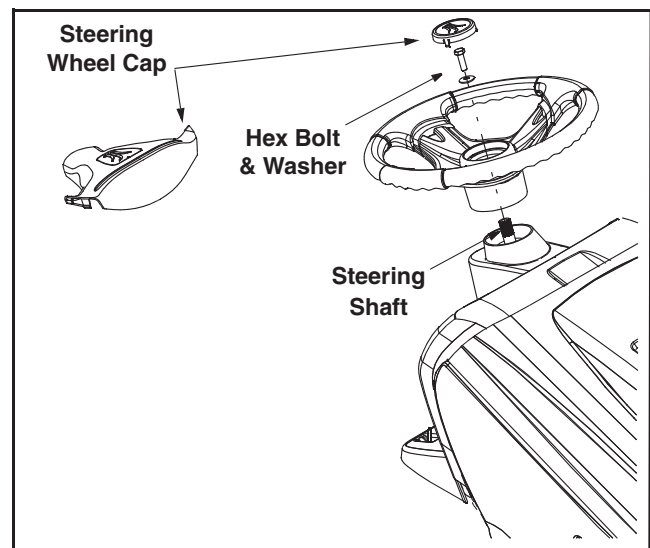

Figure 2
NOTE: There are two different styles of steering wheel cap. See Figure 2. **Styles vary by model.**
- Reinsert the steering wheel cap in the center of the steering wheel. Refer to Figure 2.